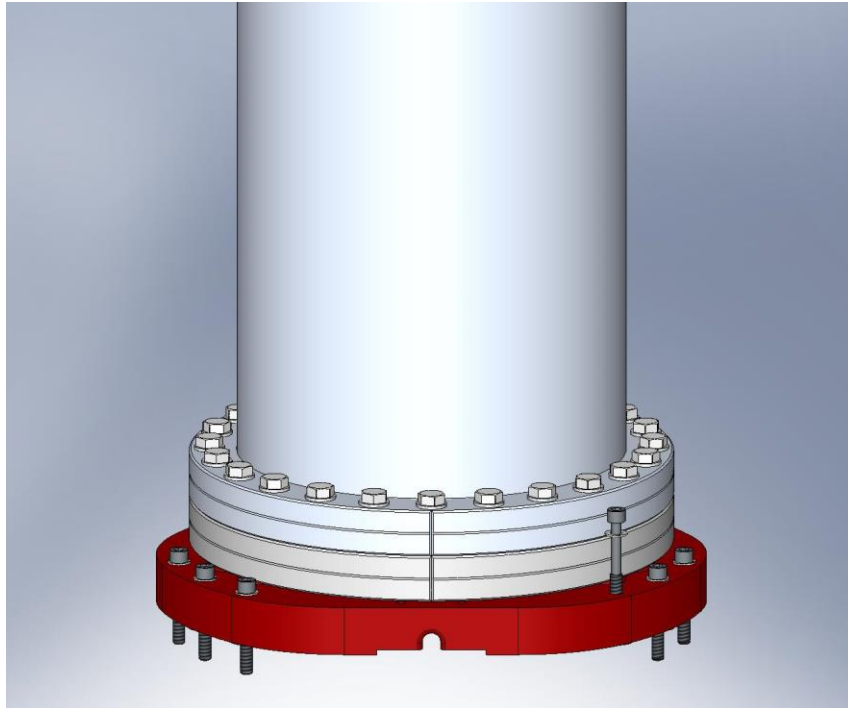

Figure 4.53. Add Captive Screws to Adapter Plate. These screws are used to mount the GS-13s to Stage 1.
- Torque all (3) **Stabilizer** screws to final spec.
- Thread in (9) **Captive Screws** through **Adapter Plate**, as shown in Figure 4.53. Note: Horizontal configuration uses offset screw location, while Vertical configuration uses symmetric locations.